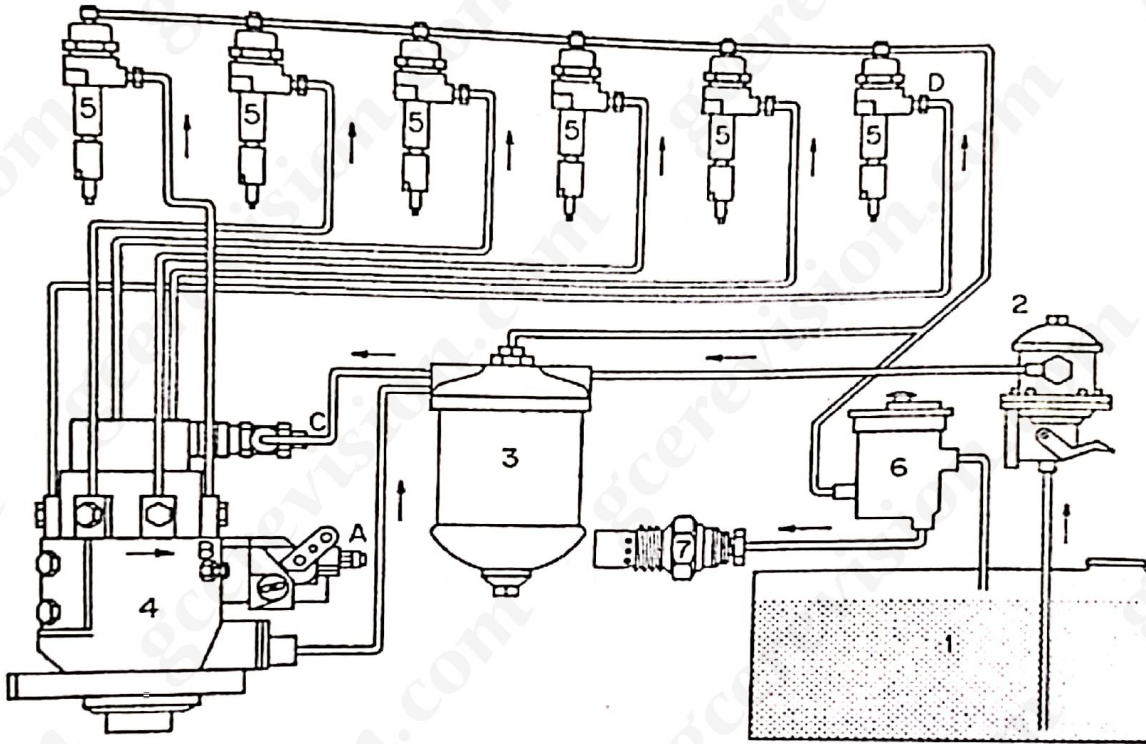

Figure 1:
Figure 1 below represents a Diesel engine fuel supply system.
- (a) What type of diesel injection pump is used in figure 1 above? (0.5 mark)